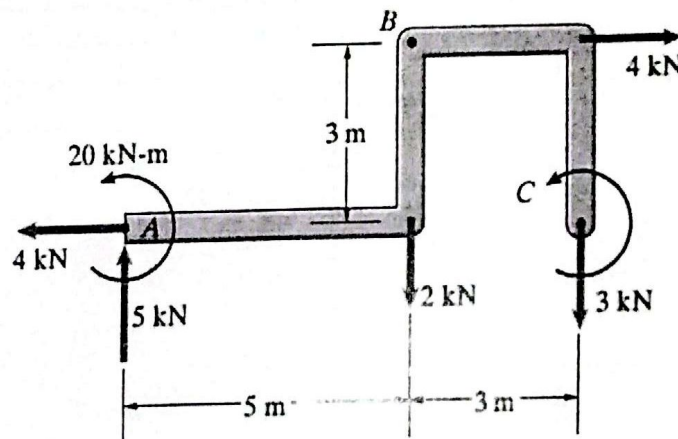

Figure 1. A Bent Bar
Q1: The sum of the moments about point *A* due to the forces and couples acting on the bent bar as shown in Fig. 1 is zero. Answer the following: [10 marks]
- Q2: The car shown in the Figure 1 below is of 1600 kg. The car has all-wheel drive and is just beginning to negotiate the 16° ramp. Figure out the minimum coefficient of static friction μ_s . Assume that slipping occurs at A and B simultaneously. [10 marks]